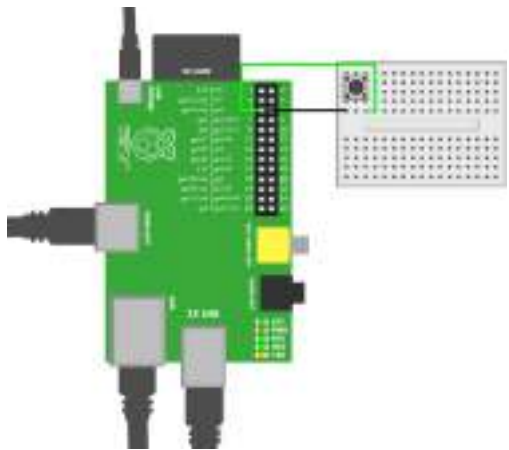

Figure 4-2. *Button on breadboard*
Build the circuit as shown in Figure 4-2. You’ll need to follow these steps:
3. Choose a breadboard column with a pair of button leads in it. Plug the male end of a jumper wire into that row, and connect the wire's other end to GND (pin 6 in Figure 4-2) on the Raspberry Pi.